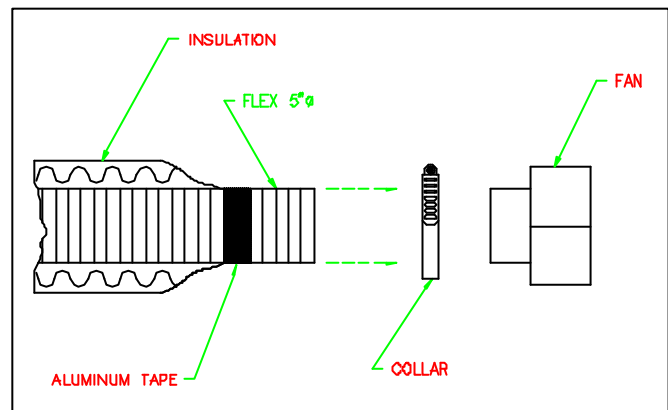

Figure 22
4. Attach the flexible pipe to the fan, using the collars (figure 22).